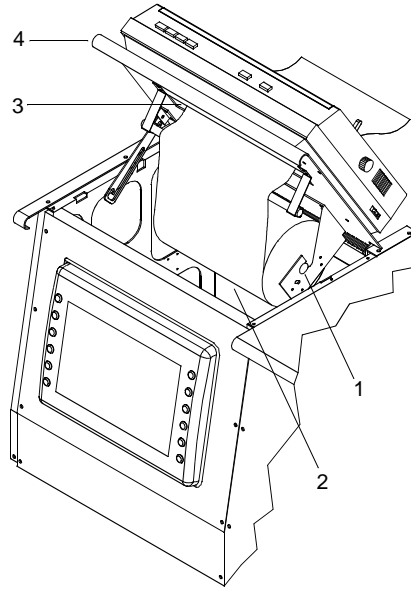

Figure 3. Printer
- Install the paper roller (figure 3, item 1) and paper (figure 3, item 2).
- Feed the paper (figure 3, item 2) through the bottom of the printer (figure 3, item 3).
- Close the GMDSS access cover (figure 3, item 4).